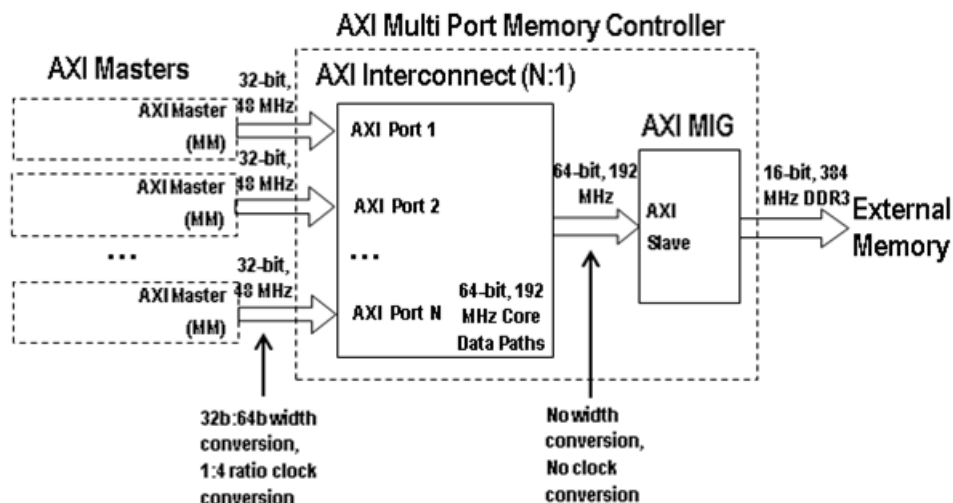

Figure 6-2: AXI Interconnect Master Side Configuration Block Diagram
- Is especially useful in situations similar to the example design, shown in Figure 6-2, where the master has a relatively lower bandwidth than the slave (memory controller).